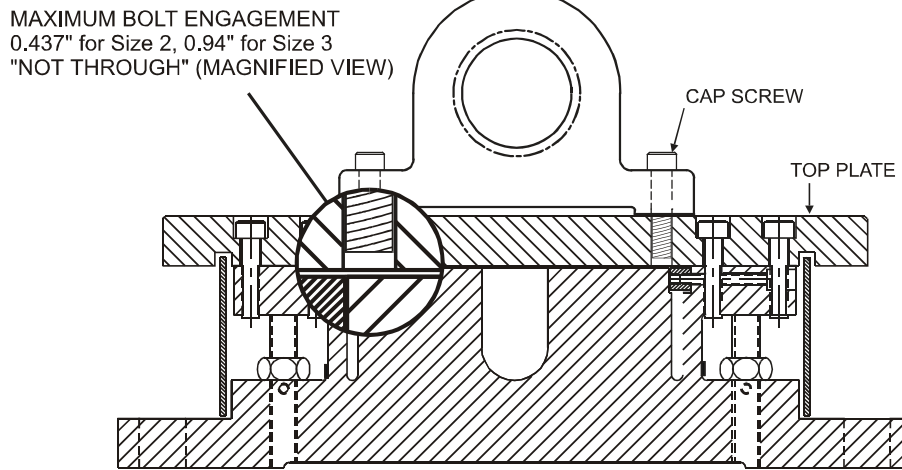

Figure 6 - BEARING MOUNTING BOLT LENGTH
2. Place the bearings and roll on the transducers and mount the bearings to the transducers with the appropriate cap screws. The length of the cap screws should be sufficient to anchor the bearings, but not so long as to exceed the maximum thread engagement with the top plate (0.437" for the UPBH2, 0.94" for Size 3 UPBH). If the cap screw is too long, the bearing will not clamp tightly to the top plate and the screw will interfere with load transfer to the sensing beam. See Figure 6.